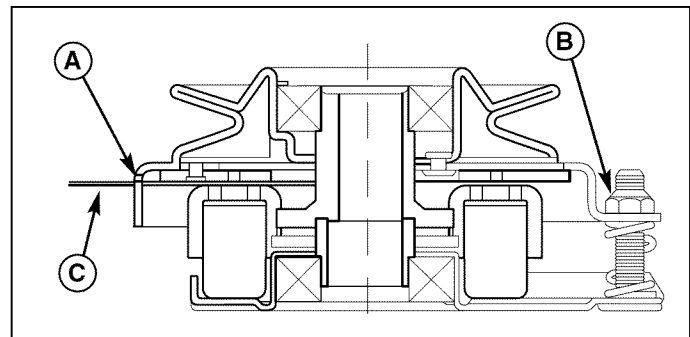

Figure 49. Adjust PTO Clutch
3. Insert a .012"-.015" (2.5-4mm) feeler gauge (C) through each window, positioning the gauge between the rotor face and the armature face as shown in Figure 49.